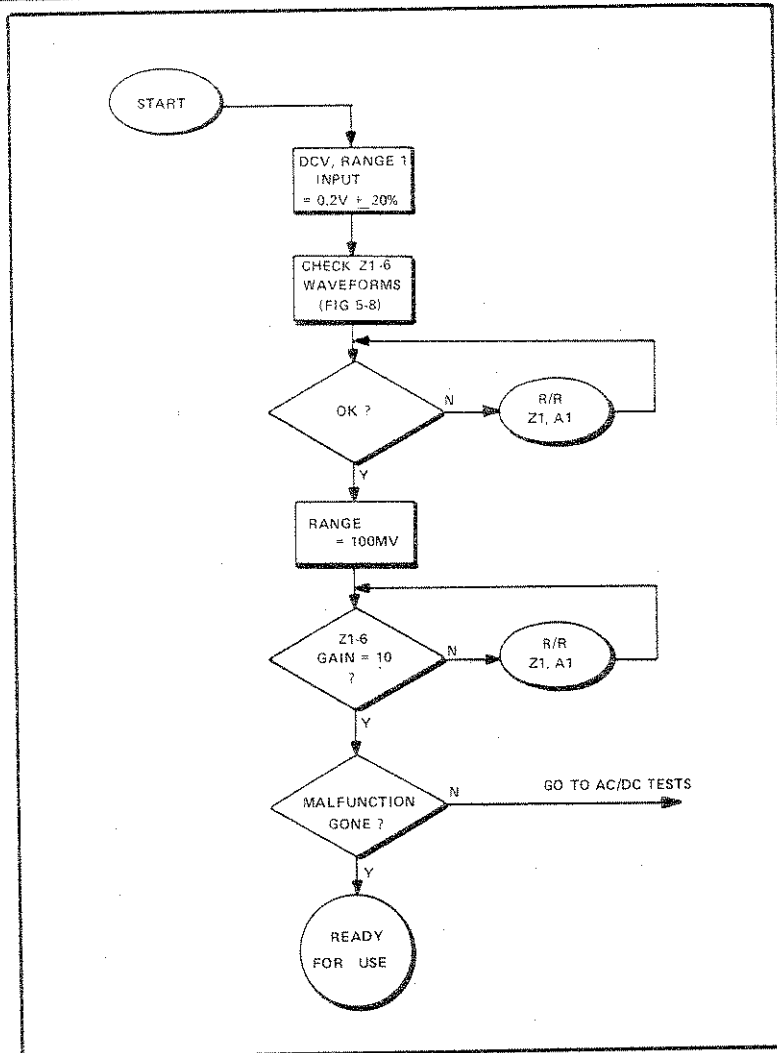
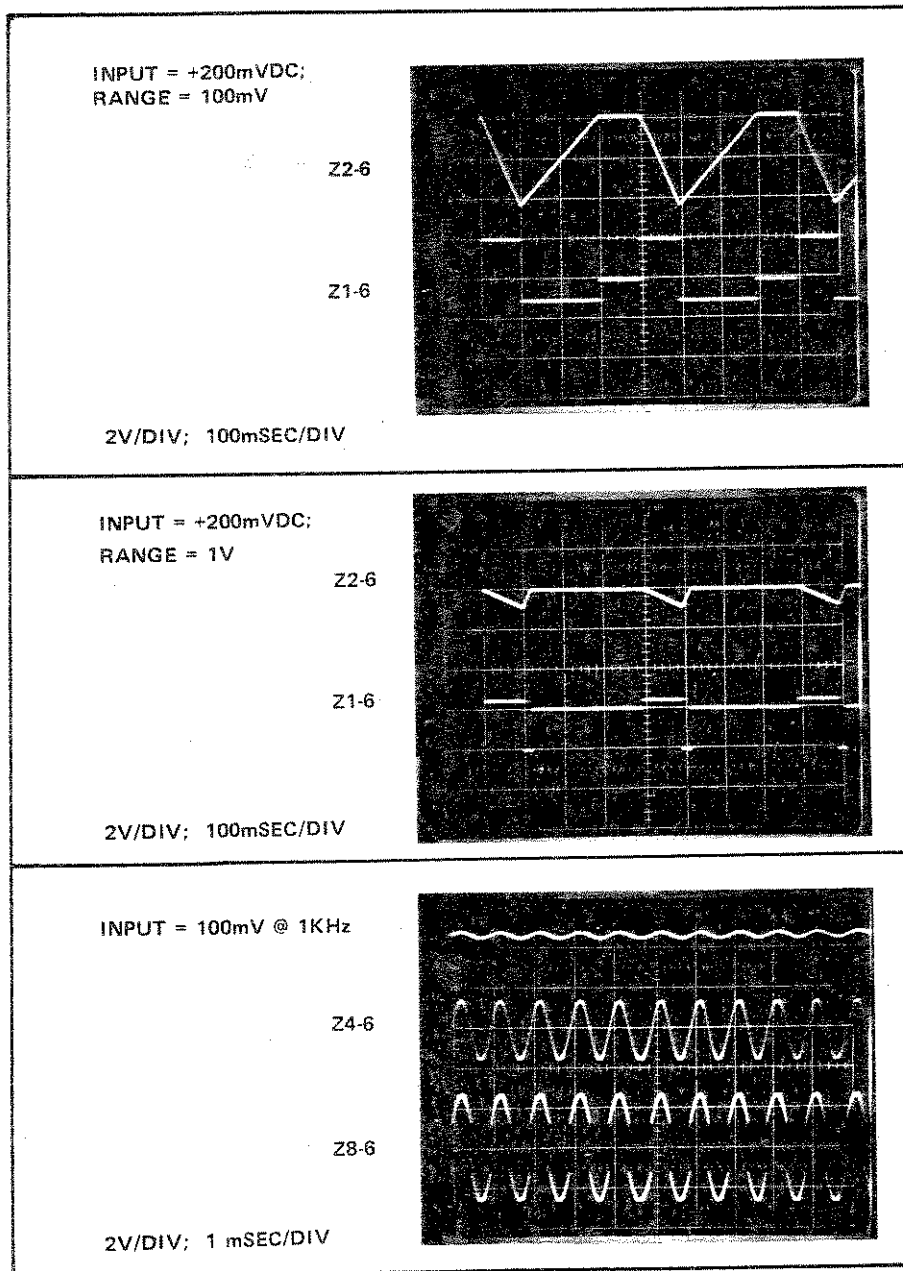

Fig 5-7 A/D Analog Signal Conditioning
Fig. 5-8 A/D Waveforms (SCOPE)
5.9 A/D CONVERTER & SIGNAL CONDITIONERS TEST (Fig 5-7)
b. Connect Z6-10 to Z6-9 and synchronize oscilloscope to positive going edge of P2 waveform by connecting to Z6-15. Observe waveform development as shown in Figure 5-8 & following sequence shown in Figure 5-7.